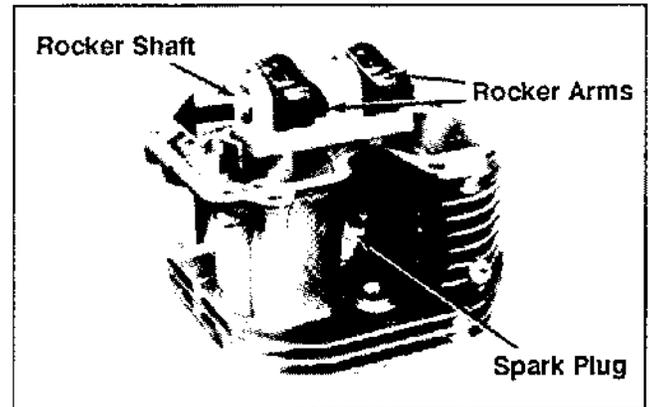

Figure 9-25. Removing Spark Plug And Rocker Arms.
1. Remove the spark plug. See Figure 9-25.